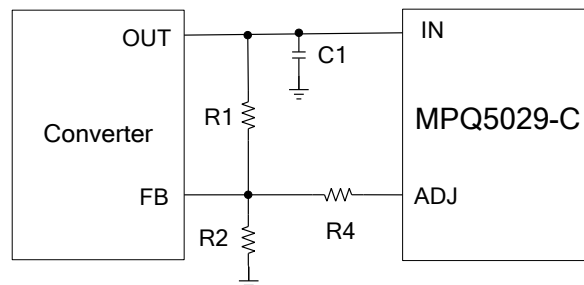

Figure 5: ADJ Configuration
Figure 5 shows typical ADJ configuration. The ADJ sink current capability is 500μA. ADJ requires a feedback current through R1 of less than 500μA. Calculate R1 with Equation (1):